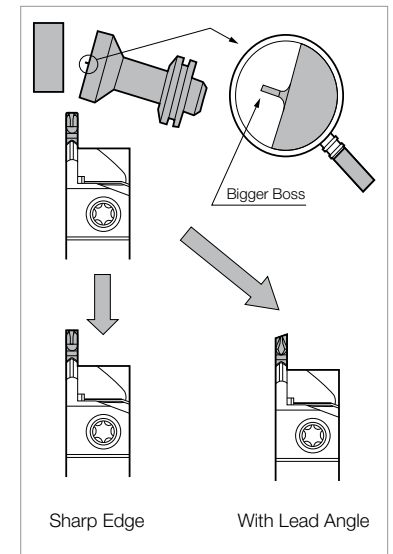

Fig.3
- 3) Use a sharp-edged insert with lead angle to minimize the remaining boss when cutting small parts and thin parts. (See Fig.3)